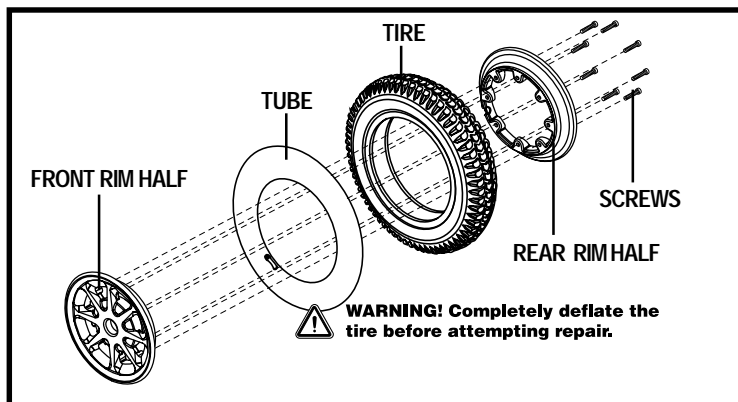

Figure 18. Quantum Jazzy 1650 Drive Wheel Disassembled
6. Remove the screws from the rim assembly and separate the front and rear rim. See figure 18.